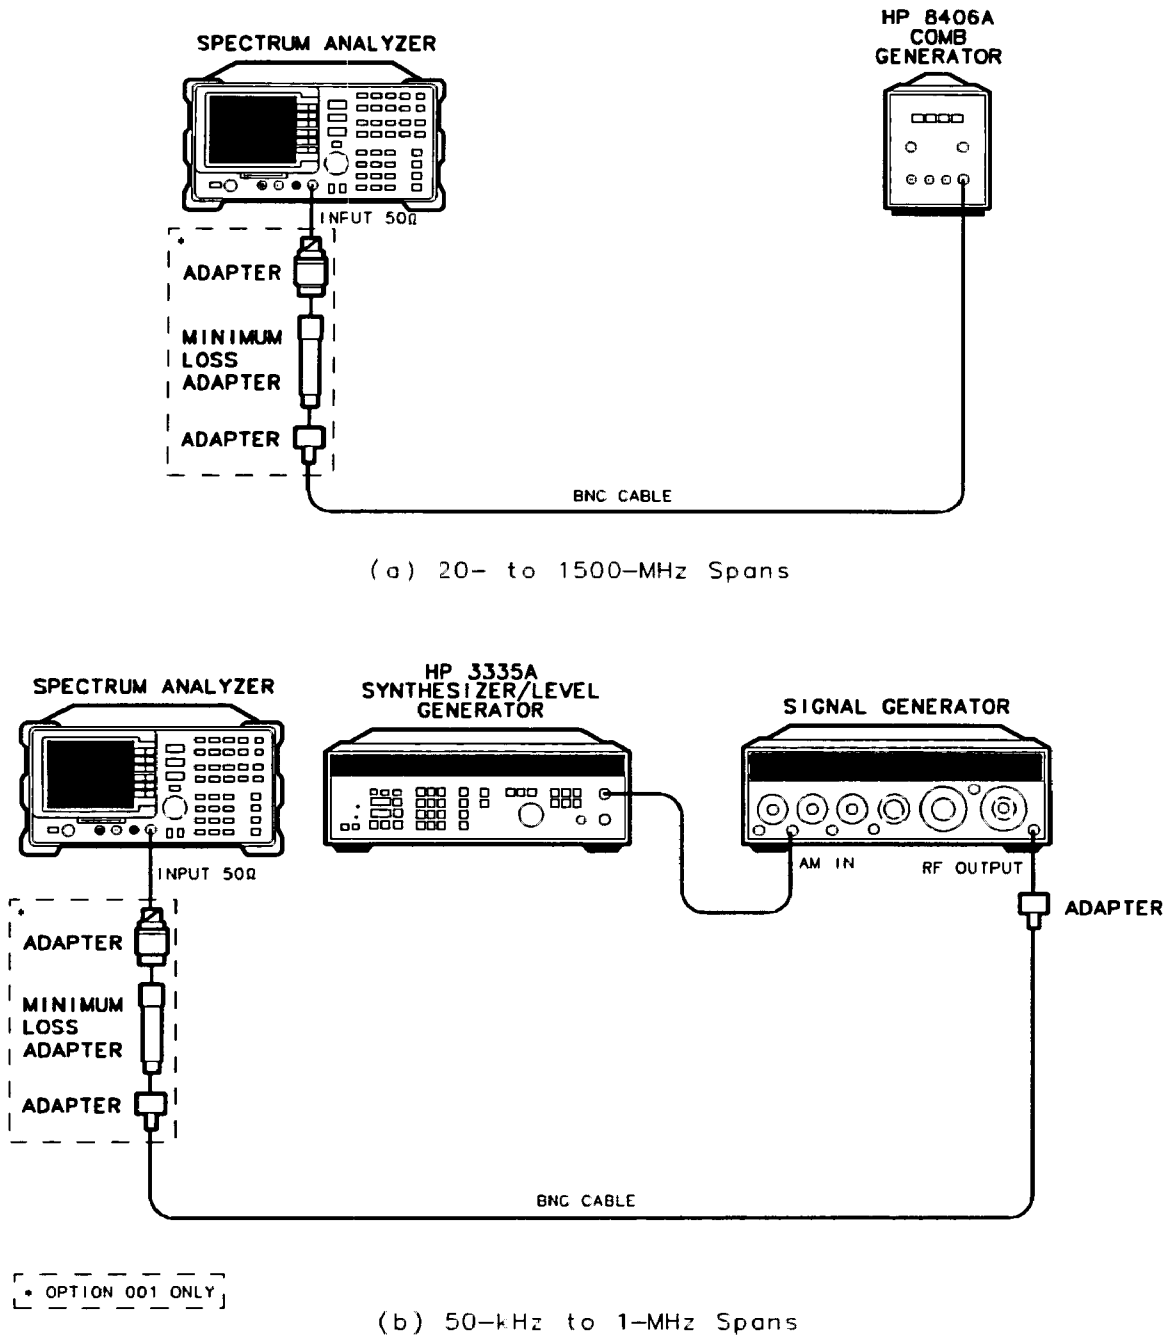

Figure 3-6. Frequency Span Readout Accuracy
2. Connect the equipment as shown in Figure 3-6.
1. Connect the equipment as shown in Figure 3-6.